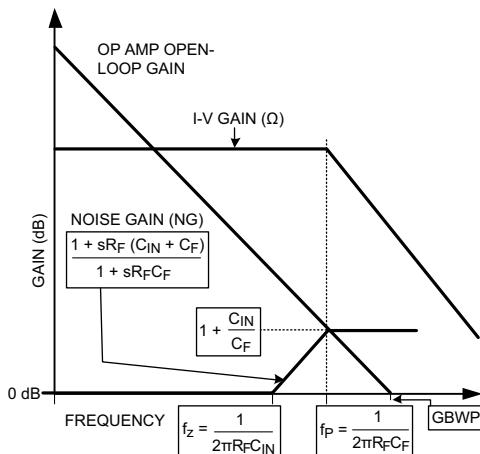

Figure 56. Transimpedance Amplifier Graphical Stability Analysis and Compensation
The diode capacitance (C_D) combined with the input capacitance of the LMH6601 (C_A) has a bearing on the stability of this circuit and how it is compensated. With large transimpedance gain values (R_F), the total combined capacitance on the amplifier inverting input ($C_{IN} = C_D + C_A$) will work against R_F to create a zero in the Noise Gain (NG) function (see Figure 56). If left untreated, at higher frequencies where NG equals the open-loop transfer function excess phase shift around the loop (approaching 180°) and therefore, the circuit could be unstable. This is illustrated in Figure 56.
Figure 56 shows that placing a capacitor, C_F , with the proper value, across R_F will create a pole in the NG function at f_P . For optimum performance, this capacitor is usually picked so that NG is equal to the open-loop gain of the op amp at f_P . This will cause a “flattening” of the NG slope beyond the point of intercept of the two plots (open-loop gain and NG) and will result in a Phase Margin (PM) of 45° assuming f_P and f_Z are at least a decade apart. This is because at the point of intercept, the NG pole at f_P will have a 45° phase lead contribution which leaves 45° of PM. For reference, Figure 56 also shows the transimpedance gain (I-V (Ω))
The op amp noise voltage will be gained up in the region between the noise gain's "zero" and its "pole" (f_z and f_p in Figure 56). The higher the values of R_F and C_{IN} , the sooner the noise gain peaking starts and therefore its contribution to the total output noise would be larger. It is obvious to note that it is advantageous to minimize C_{IN} (for example, by proper choice of op amp, by applying a reverse bias across the diode at the expense of excess dark current and noise). However, most low noise op amps have a higher input capacitance compared to ordinary op amps. This is due to the low noise op amp's larger input stage.